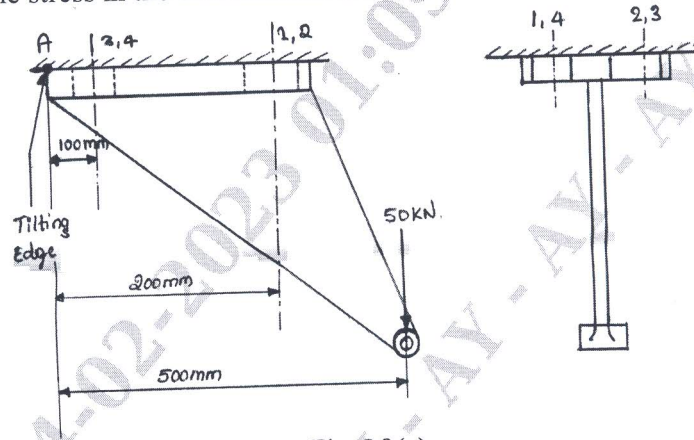

Fig.Q9(a)
- 9 a. A bracket shown in Fig.Q9(a) carries a load of 50 kN. Determine the size of bolt if the permissible tensile stress in the bolt material is  $200 \text{ N/mm}^2$ .